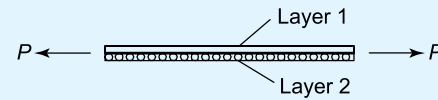

Figure 3.15 Carbon fibre layers
- Two layers of carbon fibre are stuck to each other, so that their fibres lie at 90° to each other, as shown in Figure 3.15. If a tensile force of 1 kN were applied to this two-layer compound bar, determine the stresses in each. For layer 1, $E_1 = 300 \text{ GPa}$ and $A_1 = 10 \text{ mm}^2$